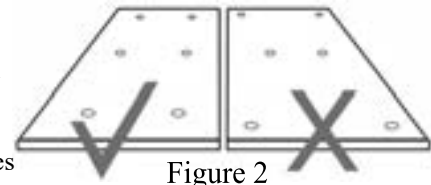

Figure 2
- a. It is important to install plates in a straight line. This will improve system performance and help you more easily identify plates under the membrane (See Figure 2)